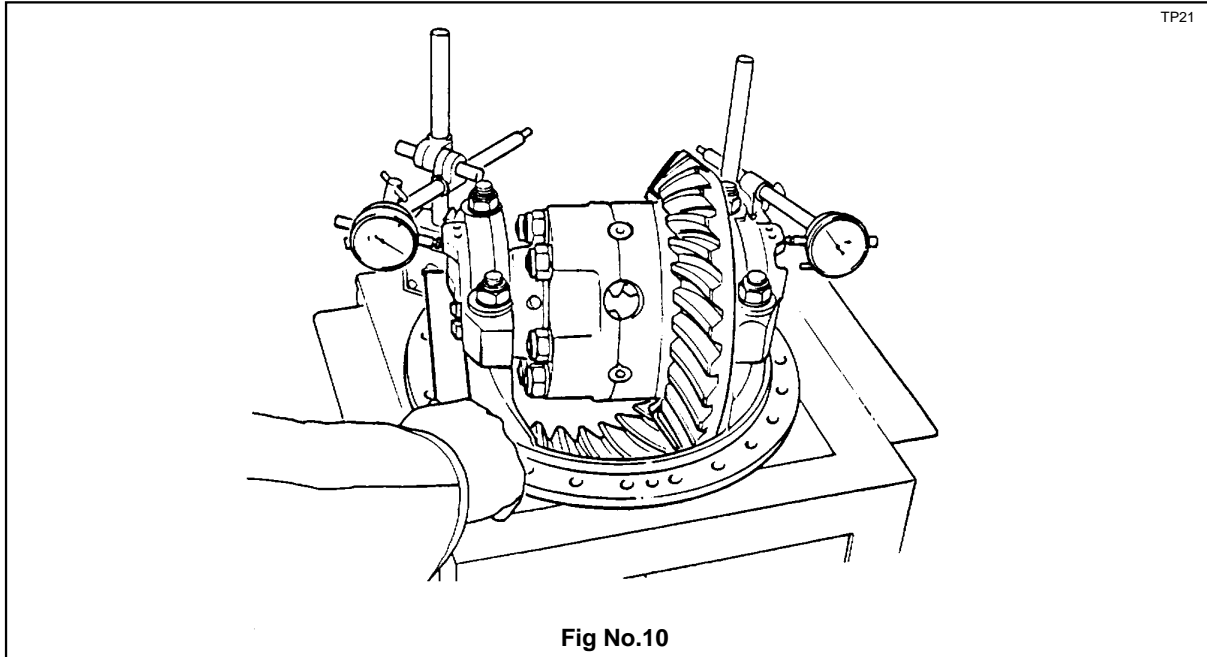

Fig No.10
- 15.2 Repeat above operation **three more times** so that **four readings** are taken at various positions equally spaced around spiral bevel wheel (crownwheel) (43). Variations of readings on dial indicator must be within limits of 0.008 " to 0.013 " (0.203 to 0.330mm). If difference in backlash of more than half backlash tolerance exists between any tooth mesh positions, then assembly should be further examined for cause and rectified.
16.1 Set up two dial indicators diametrically opposite on bevel casing strap register points as shown in fig. no.10 and set each indicator to zero.